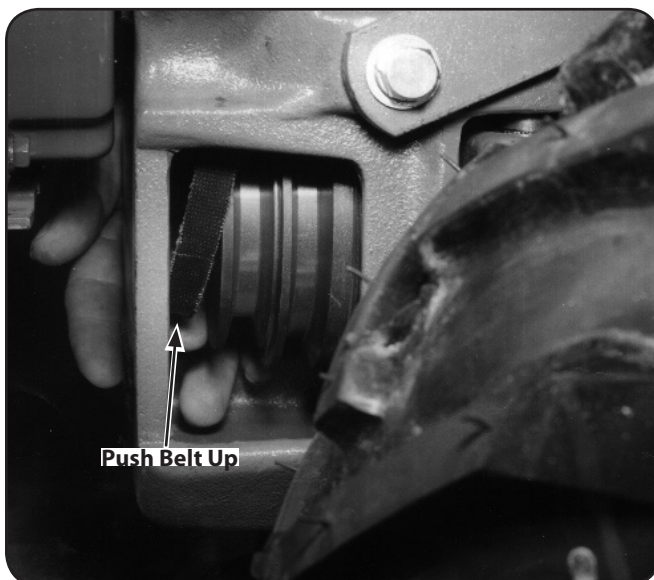

Figure 7-2
4. Push the belt upward to create slack in the belt. See Figure 7-2.
9. Push the belt forward then down until it is looped over the lower pulley. See Figure 7-2. Do not yet seat it in either of the lower pulley's grooves.